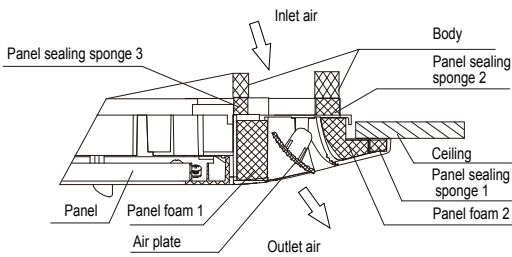

Fig.5-12
- Keep fastening the screws under the panel hooks until the thickness of sealing sponges 1&2 between the body and the panel's outlet has been reduced to about 4-6mm. The edge of the panel should touch the ceiling well. (Refer to Fig.5-12)